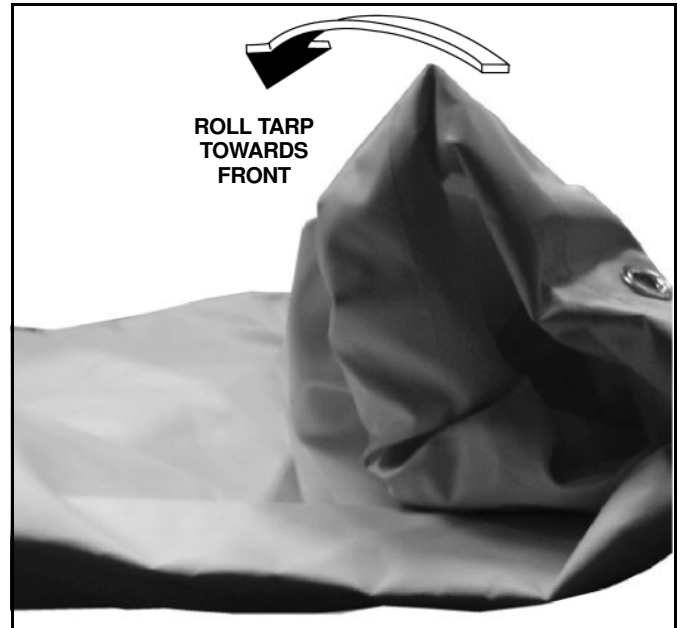

Figure 8
2. Pull the tarp away from the outer rear corners of the spreader, lift the rear tubular inner edge away from the hopper lip and roll the tarp up towards the front of the spreader. (See Figure 8.)